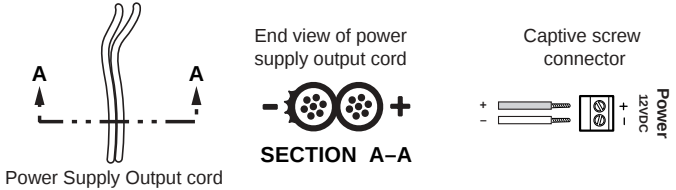

Figure 5 — Power connector wiring
- 4 **Power connector** — Plug the external 12V power supply **only when needed** (see *Power/Signal indicator LED* above) into this 2-pole captive screw connector. The power supply is included with the unit and is shipped with a plug installed. If you need to cut the power cord to a different length and reinstall the plug, refer to figure 5 and the following notes.